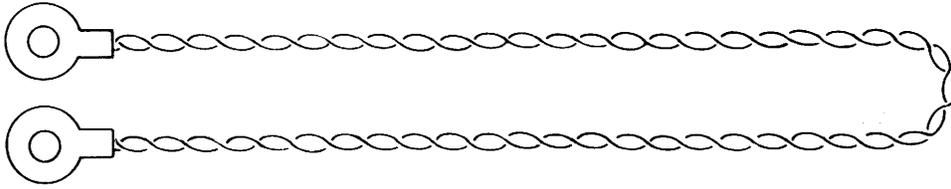

Figure 6-43. Looped Upper Drawer Wire Rope.
a. Loop new wire rope to find approximate center (see figure 6-43).